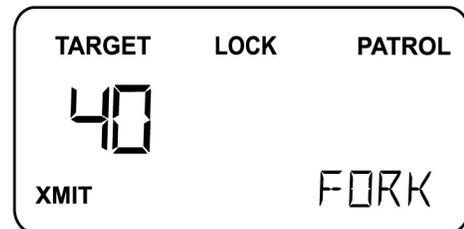

Fig. 44
To perform the tuning fork test: Turn the transmitter on with the trigger or remote control, then strike the tuning fork against a hard nonmetallic surface, such as the heel of a shoe. Quickly hold the tuning fork approximately two (2) inches in front of the antenna, with the narrow edge of the fork facing the antenna. The target window should indicate 40 ± 1 mph (64 km/h) (Fig. 44).